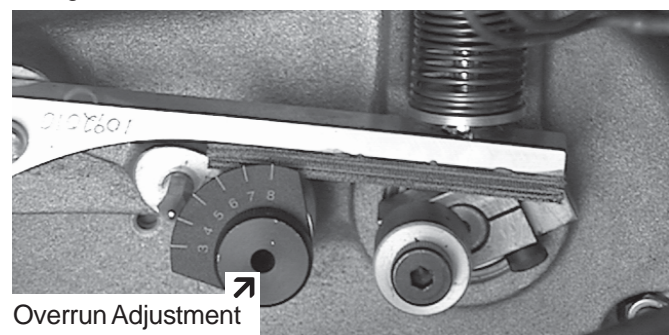

Figure 29. Overrun Adjustment
- On air compressor side of pump, locate the long/slender piston rocking arm. The rocking arm downward travel is limited by a stationery cam. On the face of the cam there is an overrun setting indicator plate numbered 3 thru 8 and an adjustment knob. Figure 29.